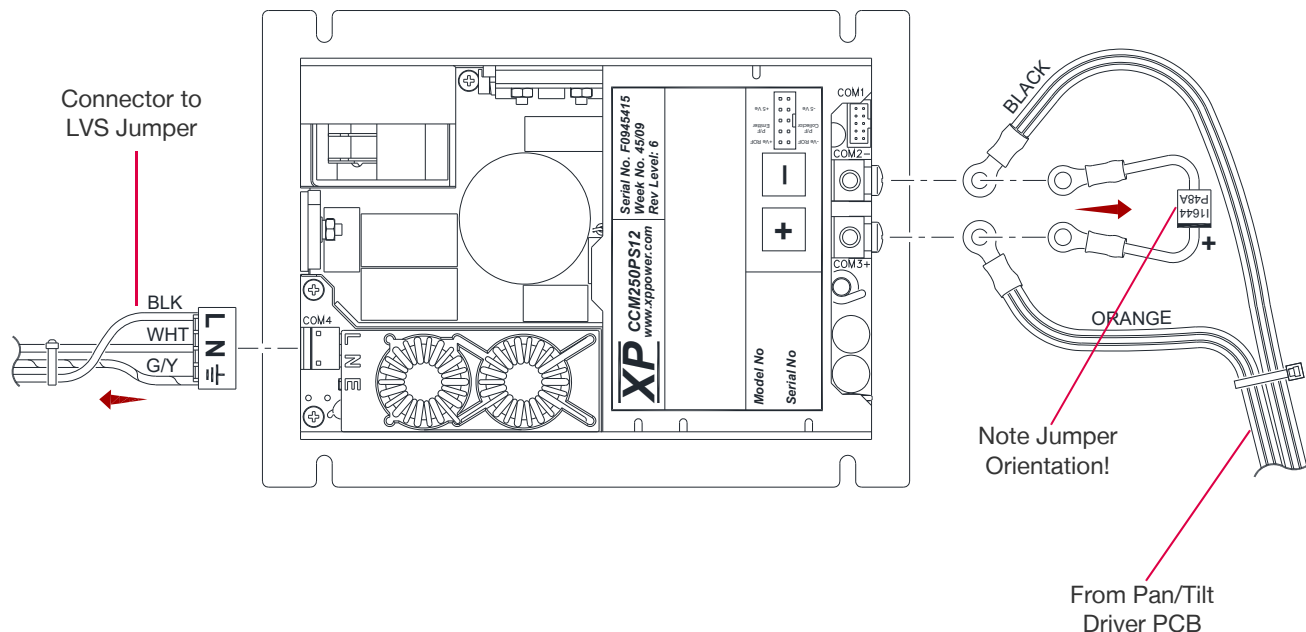

Figure 3-46: Removing the Yoke Power Supply Cabling
- Step 4. Remove wire connections from the Yoke Power Supply. (See **Figure 3-46** below)